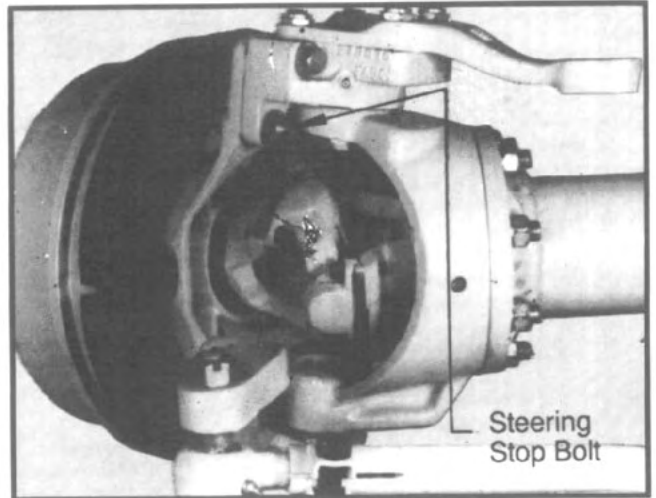
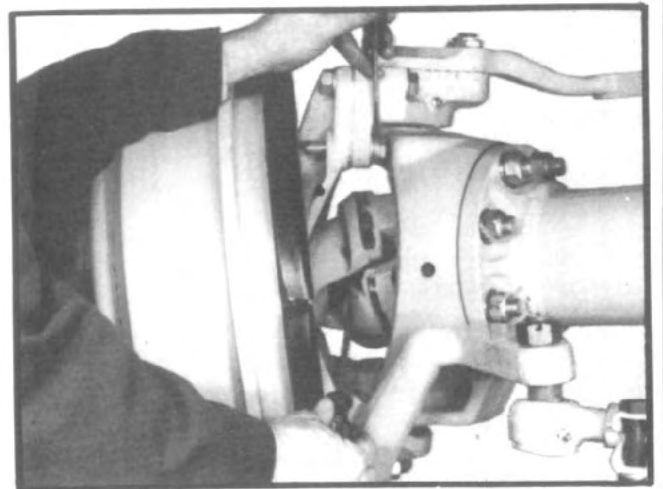
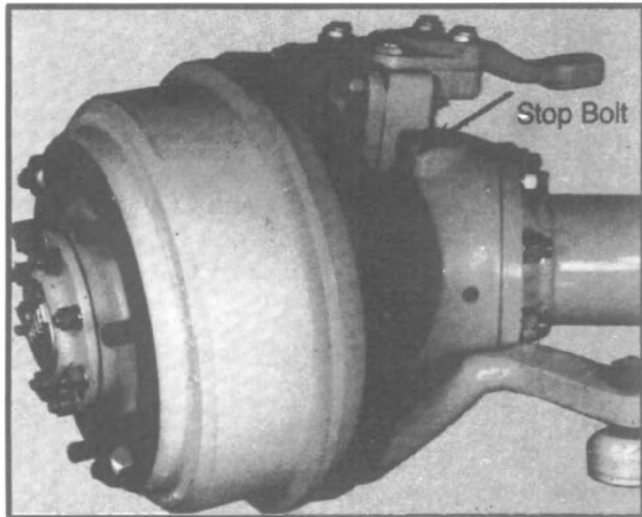

Fig. 7
Fig. 8
Fig. 9
3. The steering stop is the lower rear, upper kingpin bracket mounting bolt (See fig. 7). Adjustment is made by the installation of a number of washers under this bolt's head (See fig. 8). The purpose of the stop is to protect the universal joint and the brake chamber from hitting another part in a full turn of the steering.
4. Turn the steering to put the axle first in the full left turn condition. (See fig. 9, Page 7.) The head of the stop bolt should stop the turn before any of the rotating parts in the left hand steerable drive end interferes with another part. The brake chamber on the right end should not hit the suspension yoke. Turn the steering to the right and check the corresponding conditions (See fig. 8 and 10.)